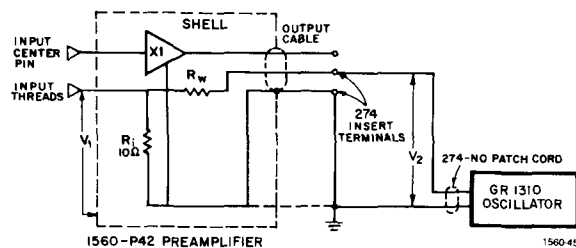

Figure 4-3. Setup for determination of system sensitivity.
a. Make the setup of Figure 4-3. Connect the oscillator to the 274 insert terminals (the connector at the end of the Preamplifier output cable). Connect the voltmeter between the threaded portion of the input connector and the shell of the Preamplifier, i.e. across the insert resistor (clip leads can be used). Power for the Preamplifier is not needed. In the figure, R_i is the insert resistor (nominally $10\ \Omega$) and R_w is the internal wiring resistance (typically a few tenths of an ohm).